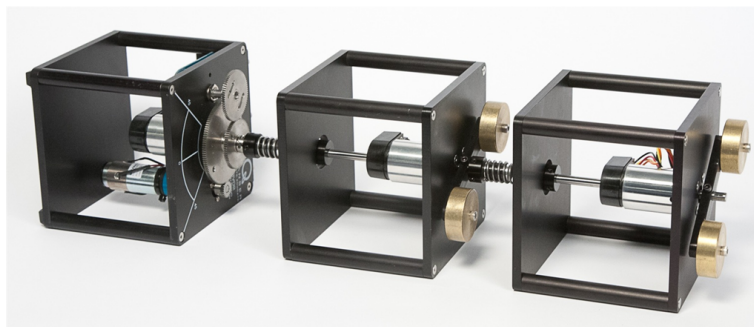

Figure 1.2: SRV02 2-DOF Torsion system.
The Two-Degree-Of-Freedom (2-DOF) torsional configuration is shown in Figure 1.2, below, when two rotary Torsion modules are mounted in series with an SRV02 servo plant. Similarly to the 1-DOF Torsion system, the SRV02 lies on its side such that its DC motor and output shaft are horizontal and able to rotate the two cascaded flexible couplings, each attached to a rotational load. Each torsional load consists of two inertial disc masses, which can be located at different anchor points along their support bar.
1. To setup the 2-DOF Torsion system, shown in Figure 1.2, above, go through the procedure given in Section 4.1 to assemble the 1-DOF Torsion system.